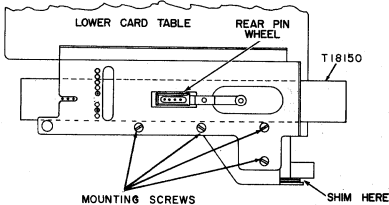

Figure 15
1. Shim the lower card table so that the rectangular opening is centered laterally over the rear pin wheel (Figure 15).
4. Loosen the four upper card table mounting screws, place an edge card in the reader and lower the card table so the card is on the pins. Position the upper card table so its guiding edge just touches the card and tighten the four mounting screws (Figure 15).